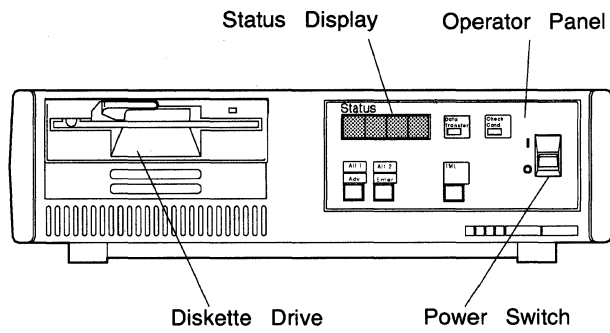

Figure 1-5. 3174 Model 90R
- 90R. See Figure 1-5 on page 1-5.